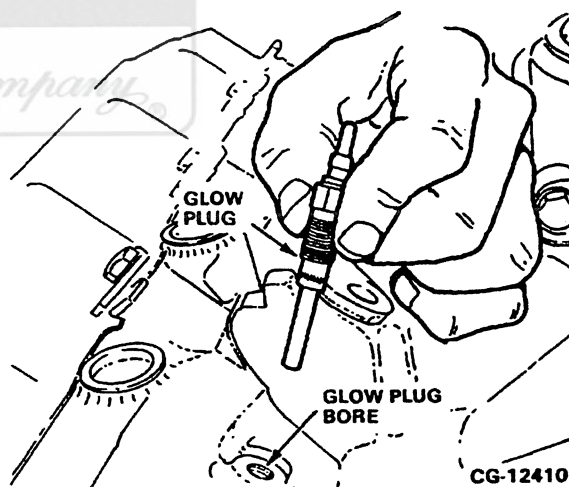

Figure 9.53. Glow Plug Removed
2. Remove the glow plug from the bore in the cylinder head. Refer to **Figure 9.53**.